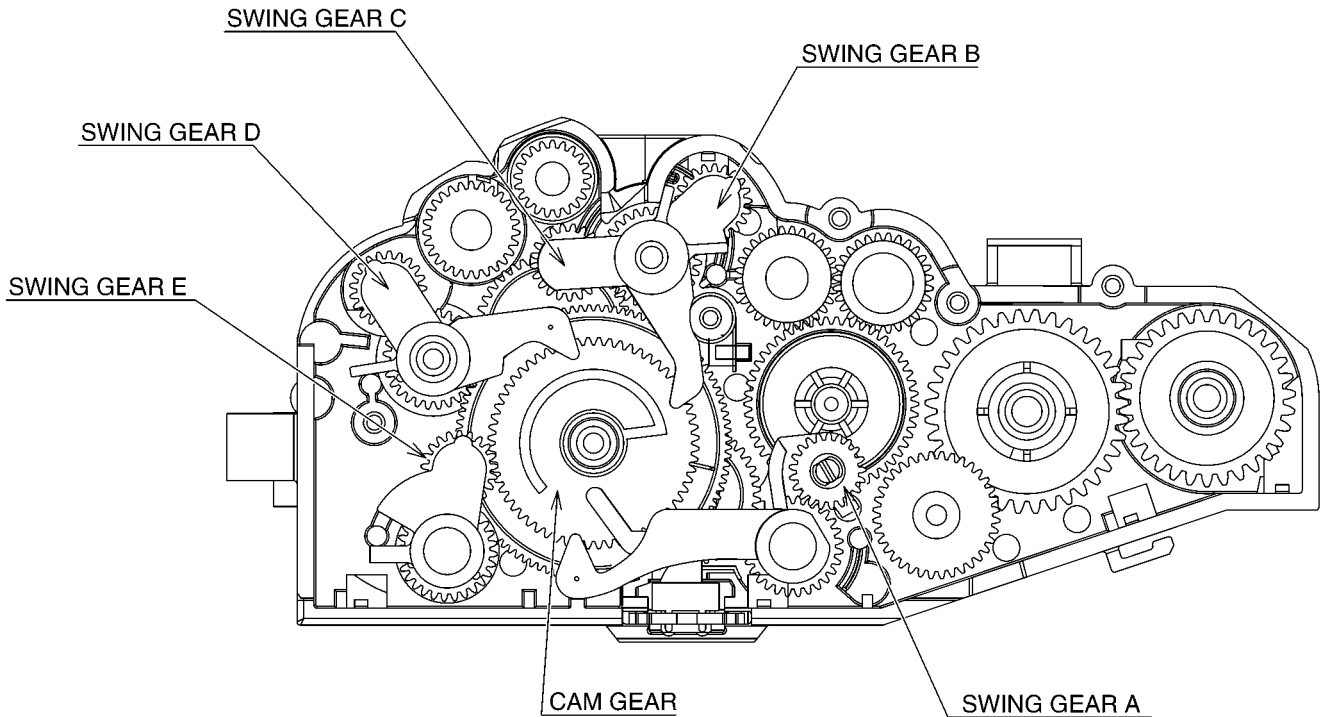

Fig. 1: Mode Selection
When a motor with Drive Motor Gear attached rotates clockwise (CW), Swing Gear E engages CAM Gear to rotate clockwise (CW). This operation provide five mode options (**A**: Transmit mode, **B**: Paper-Pickup mode, **C**: Assist mode **D**: Receive mode and **E**: Copy mode) selected by the Sensor Switch. (The Sensor Switch Lever's position in the CAM Gear controlled by the software selects a specific mode.) You can see which mode is selected by confirming the Mode Marker's position as shown in Fig. 1.